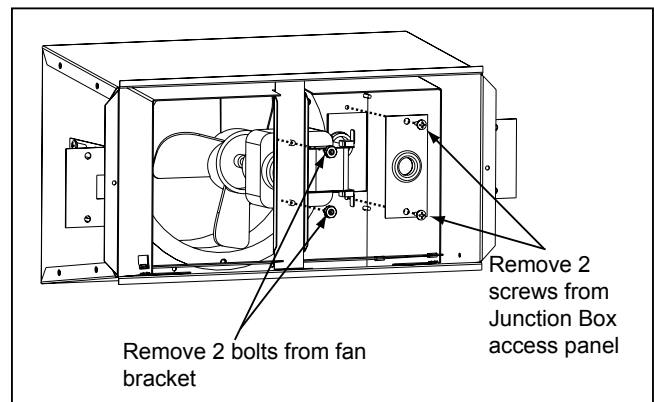

Figure 9
1. Remove the 2 screws from the Junction Box access panel. See Figure 9.